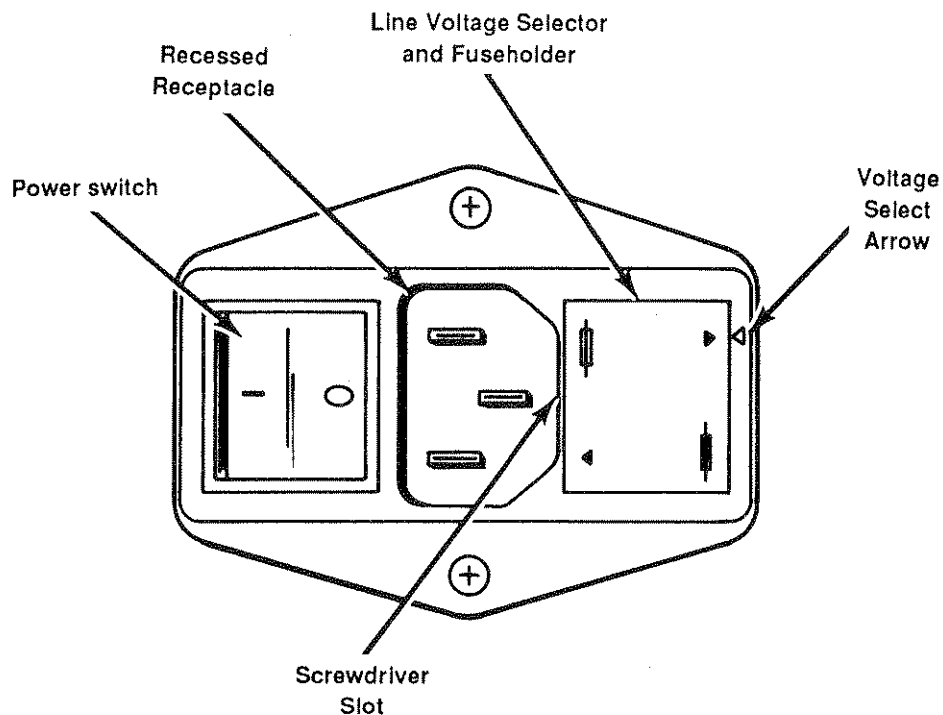

Figure 2-1
This section contains information on the unit's input power requirements. The power switch, power receptacle, line voltage selector, and fuseholder are all located on the rear panel. Figure 2-1 shows the power input module.
selected input voltage is determined by the markings on the module as shown in Figure 2-1. The voltage is marked next to the arrow located on the upper right side of the module.
- (1) Remove the power cord from the rear panel.
- (2) Locate the line voltage and fuseholder module on the right side of the power cord receptacle on the rear panel (see Figure 2-1).
- (3) Insert a small flat-head screwdriver into the small notch on the left side of the module (see Figure 2-1) and gently pry the module from the power input module.
- (4) Pull the voltage selector module straight out.
- (5) Rotate the module and re-insert it so that the appropriate operating voltage is next to the arrow located on the upper right side of the power input module (see Figure 2-1).
- (6) Press the line voltage and fuseholder module securely back into place.
- (2) Locate the line voltage and fuseholder module on the right side of the power cord receptacle on the rear panel (see Figure 2-1). Note the orientation of the line voltage and fuseholder module before removing it.
- (4) Pull the line voltage and fuseholder module straight out.
- (5) Identify and remove the blown fuse and install a new fuse of the correct size.
- (6) Verify the orientation of the line voltage and fuseholder module and re-insert it so the appropriate operating voltage (labeled on module) is next to the arrow located on the upper right side of the power input module.
- (7) Press the line voltage and fuseholder module securely back into place.